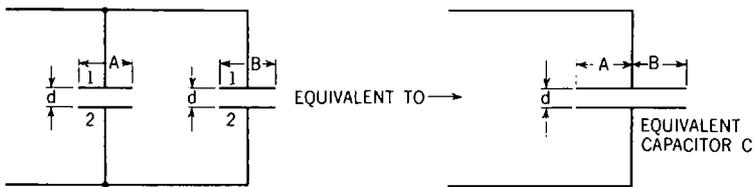

Fig. 34-9. Diagram showing the effect of two capacitors in parallel.
**Capacitors in Parallel.** Connecting several similar capacitors in parallel is the equivalent of having one capacitor whose plate area is equal to the total plate area and whose dielectric thickness is the equivalent of that of one of them. You may see why this is so from Figure 34-9. The area of plate #1 of capacitor A is added to the area of plate #1 of capacitor B. Similarly, the area of plate #2 of capacitor A is added to the area of plate #2 of capacitor B. The dielectric thickness has remained the same. Since the plate areas of capacitors A and B have been added and the dielectric thickness has remained the same, the capacitance of the equivalent capacitor